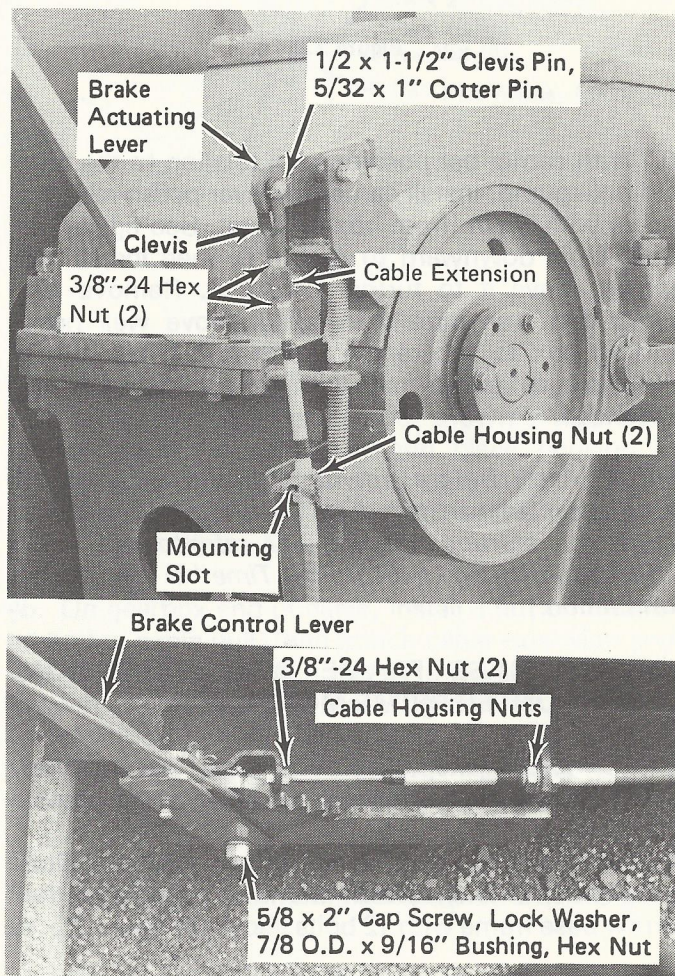

Figure 22
25. Attach brake control lever to ratchet with a bushing and bolt. See figure 22. Route brake cable from brake assembly on gearbox, under belt shield to brake control lever. Remove one nut from end of cable housing at control lever end. Then insert end of cable through holes in cable support bracket and install nut. Attach cable pull to link on control lever with two nuts.